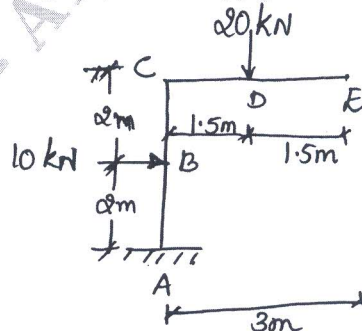

Fig Q3(b)
b. Determine the vertical and horizontal deflection at the free end of the bent shown in Fig Q3(b). Assume uniform flexural rigidity EI throughout.